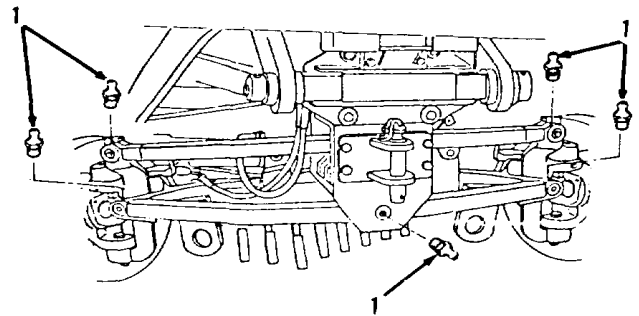

Figure 5-67.
2. Remove six fittings (1, Figure 5-67).